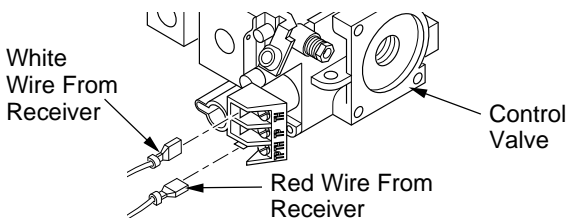

Figure 21 - Connecting Wires
- Connect wires to control valve at the TPTH and TH locations as shown in Figure 21. **Note:** Make sure excess wire does not interfere with burner or pilot.